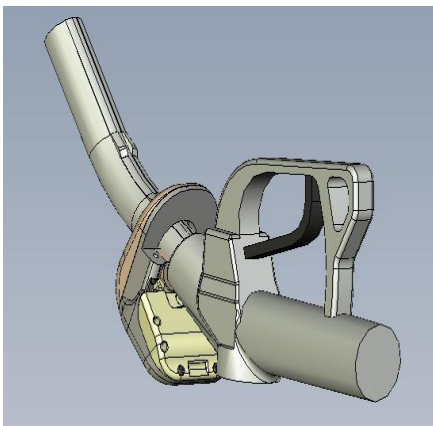

Figure 12: SecurNozzle on fuel nozzle
Step 2: Insert the SecurNozzle over the nose of a nozzle as indicated in Figure 12.